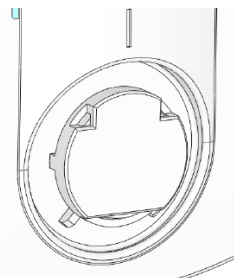

Fig. 3
3. Remove the dial pins and put in the desired holes to limit the setting range of the thermostat. (Figure 3 et 4)